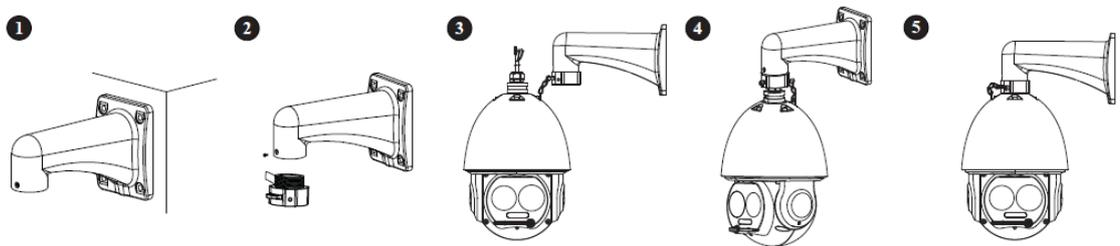

Figure 3-2
Dig holes on the mounting wall, fix expansion bolts and tighten hex nuts, which is shown in Figure 3-2 ①.
Rotate the quick mounting connector into the wall-mounted bracket and use stainless screw to fix, which is shown in Figure 3-2 ②.
Clasp the safety catch, connect to cable and use insulated rubber tape to make it waterproof, which is shown in Figure 3-2 ③.
Pull the cable into the wall-mounted bracket, use stainless screws to fix the speed dome camera on the bracket, which is shown in Figure 3-2 ④. Check if the speed dome camera is firmly installed and complete the device installation, which is shown in Figure 3-2 ⑤.